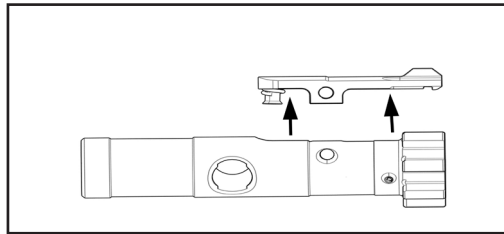

Fig. 43 – Separate the extractor form the bolt head
h. Separate the extractor from the bolt head (Fig. 43).
- b. Insert the extractor with spring and buffer into the bolt head. Place pressure on the back of the extractor, line up the mounting surfaces and install the extractor pin. Ensure the extractor pin is centered in the bolt head before attempting to install the bolt head into the bolt carrier (Fig 43).